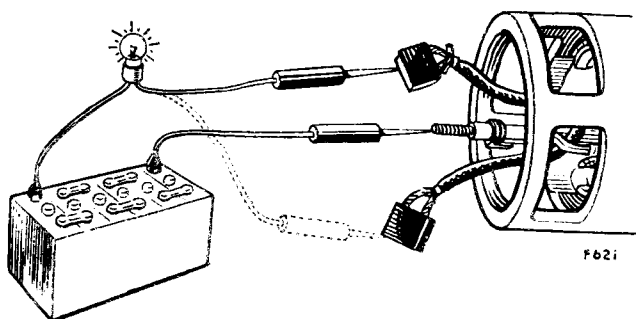

Fig. 39. Field winding continuity
1. Provide suitable test circuit. See Fig. 39.